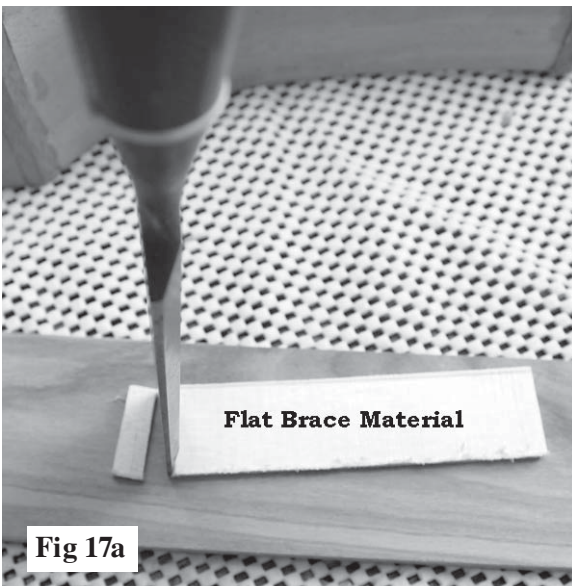

Fig 17a
17. When the braces are dry, use a chisel to clip a 1/4" end of the thin flat back bracing material to use for a patch across the intersection of the X braces, as shown below (fig 17a).